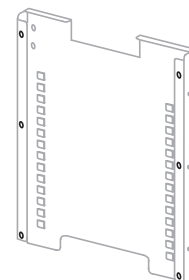

Figure 1-10. Grommets on back of duct sheet
1. Install the included grommets into the back flange of each duct sheet; 6 grommets per sheet. See Figure 1-10.